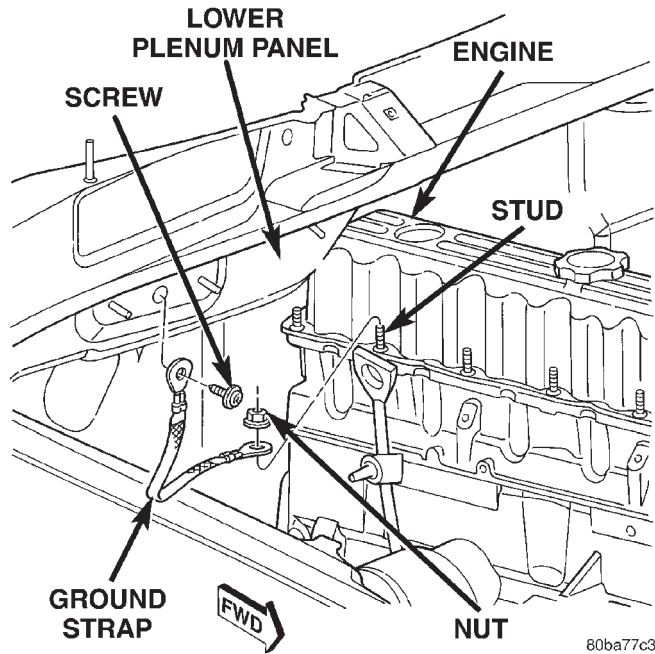
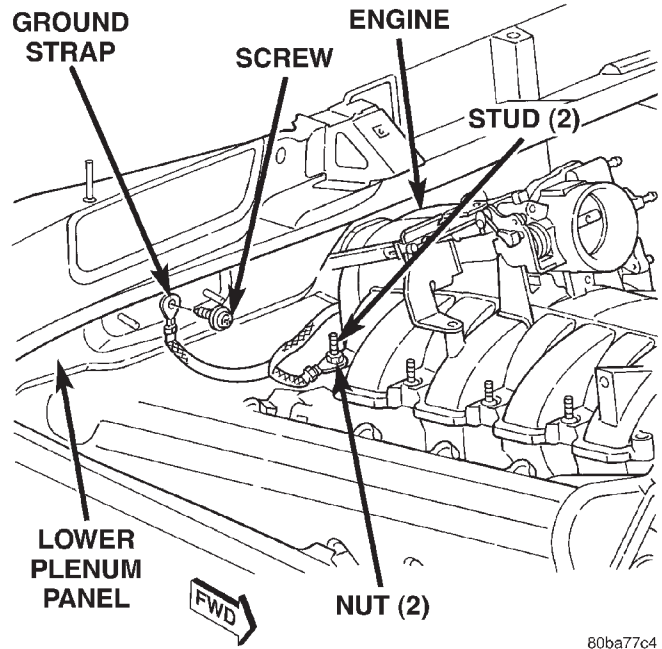

Fig. 16 Engine-To-Body Ground Strap Remove/ Install - 4.0L Engine
Fig. 17 Engine-To-Body Ground Strap Remove/ Install - 4.7L Engine
(1) Remove the screw that secures the engine-to-body ground strap eyelet to the lower plenum panel (Fig. 16) or (Fig. 17).